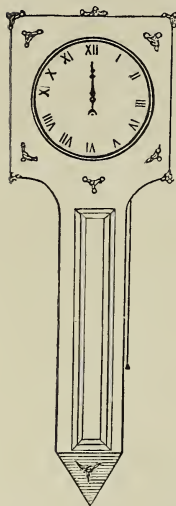
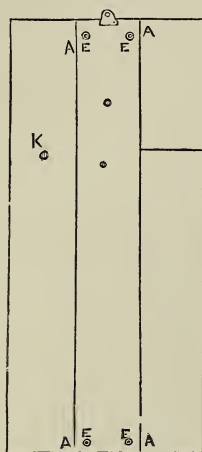
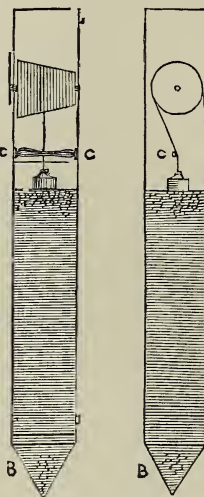

Fig. 16.
Fig. 17.
Fig. 18.
An ingenious and inexpensive timekeeper may be made by any boy for a few pence and a little labour. Buy a sheet of millboard, the thicker the better—size, 27 in. by 22 in.—cut off a strip 10 in. by 27 in., and shape it as shown in Fig. 16, the top part to be 10 in. square, and the lower 17 in. by 4 in. Next mark off the remainder of the millboard into three equal parts of 4 in. each, as shown in Fig. 17, then, with a straightedge and a sharp knife, cut half through the lines AA. This will form the two sides and back of the case. The funnel (B, Fig. 18) should be made of tin, with a square top to fit over the millboard, and have a very small aperture at the point; any tinman will make this for 3d. or 4d. The spindle (C, Fig. 18) must be $3\frac{3}{4}$ in. long, $3\frac{1}{2}$ in. deep in front, diminishing to 2 in. at back, have a screw-shaped groove from end to end, and work on a small spindle or axle, projecting 1 in. in front, for the hand to be connected to, and $\frac{1}{2}$ an inch at rear. If the young horologist has not a lathe at his disposal, the spindle can be obtained from a turner for a few pence. The weight may be made of a piece of shaped stone, or of an empty stone ink-bottle, from the neck of which the cord passes over the bar (C), round the grooves of the spindle, and out of the hole (K). A small weight, such
reels (E, Fig. 17), such as are used for silk, should be glued on the back, to keep the case from the wall, and a ring fastened to the top to hang it by.
(C, Fig. 18), the weight resting on the surface. As the sand runs through the funnel-point the weight will descend with it at the rate of about 1 in. per hour. The flow of sand will be perfectly equable from the time the case is filled until it is nearly empty, which is explained by the fact that the sand lies in a succession of conical heaps, only the *first* of which presses on the bottom, the others throwing their weight on the sides of the case. A gallon of sand will be more than sufficient to fill the cases, and as it falls it should be caught in a vase placed beneath